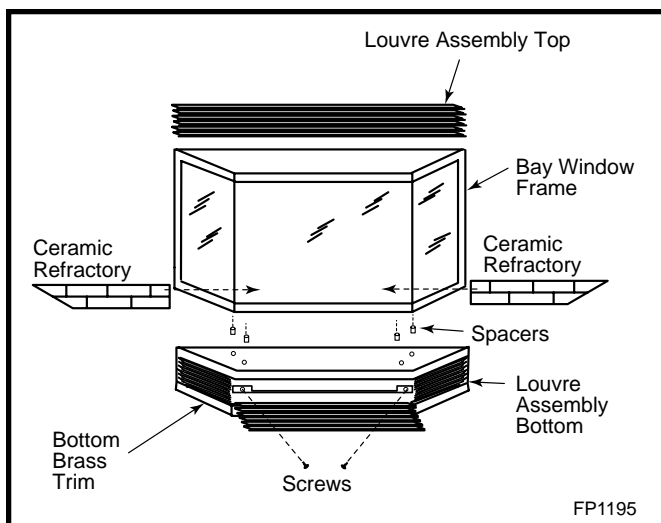

Fig. 62 Bay window.
4. Place the two pieces of ceramic refractory along the base of the bay window. (Fig. 62)